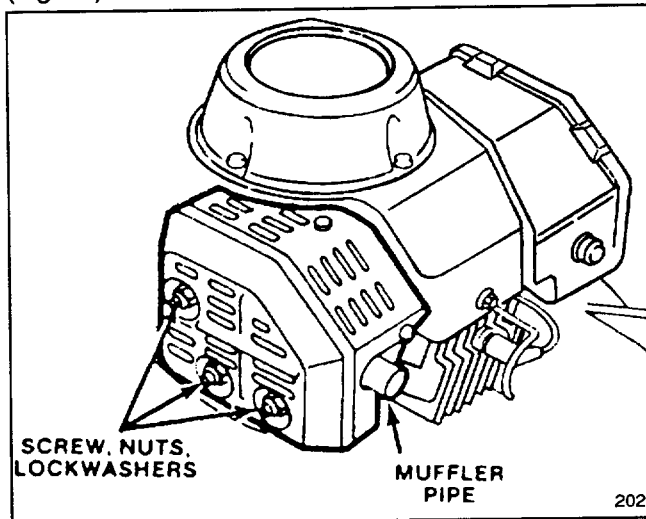

Figure 18
1. Use hard wood scraper and remove carbon from end of muffler pipe (Fig. 18).
2. Remove screw, two nuts, and lockwashers (Fig. 18). Slide muffler off mounting pins.
5. Reinstall muffler with screw, (2) nuts and lockwashers (Fig. 18). After cleaning exhaust port, make sure muffler gasket is still usable.